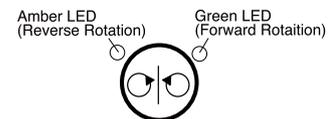

Fig.3-12 Electric Motor Direction Control Switch
⑩ Electric Motor Rotation Direction Control Switch (Optional) (Fig.3-12) [E]